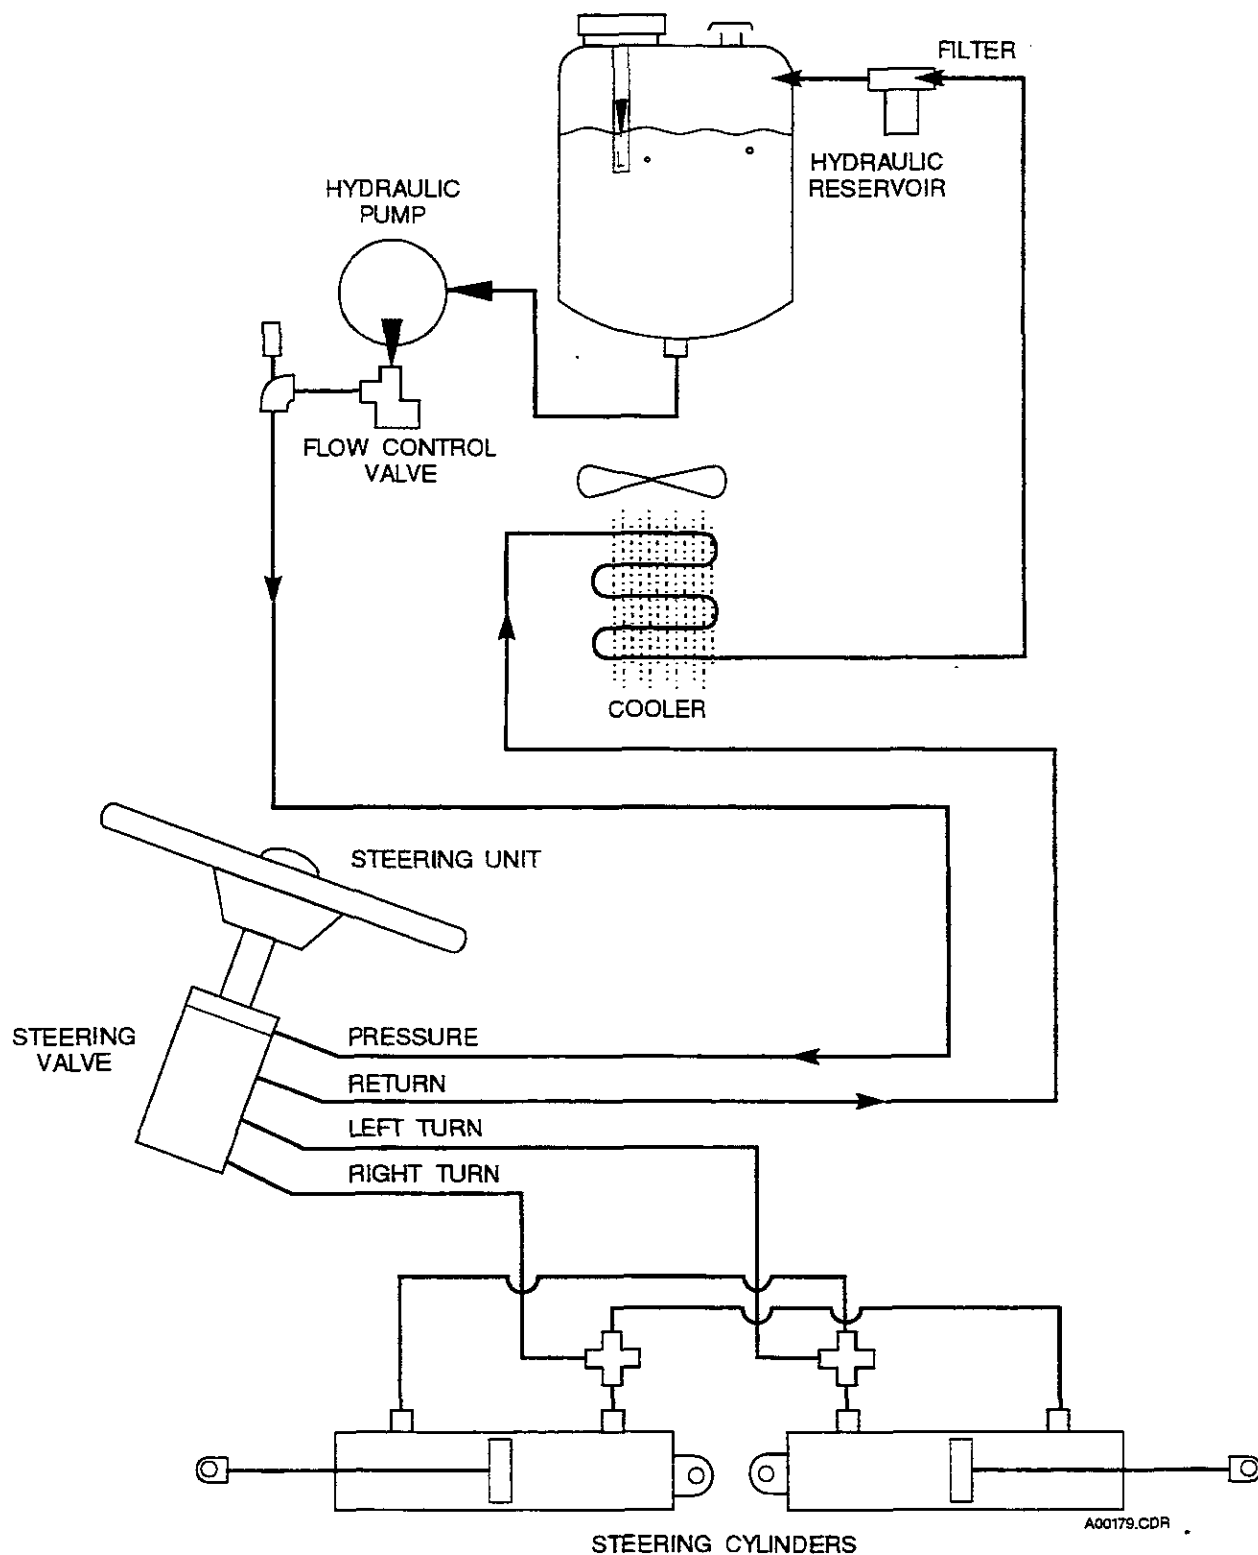

FIGURE 1.4 HYDRAULIC STEERING SYSTEM SCHEMATIC
1.11.2 The steering system is composed of six major components. These components are described as follows (Figure 1.4).